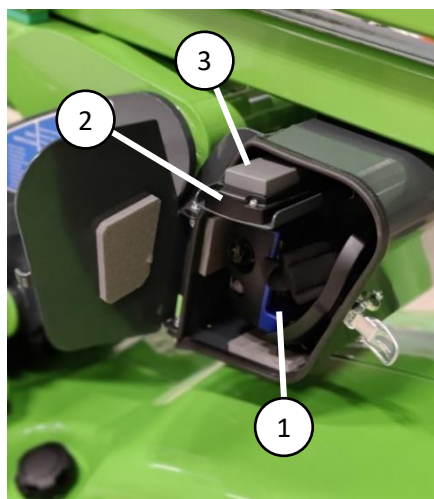

Figure 4. Lower control panel
- Emergency stop switches in upper (figure 3 (11)) and lower control panels (figure 4 (4)) can be used at any time.